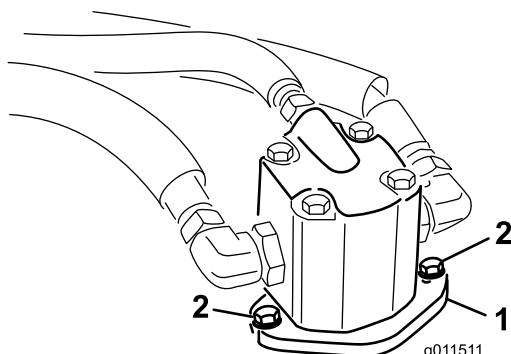

Figure 1
2. Remove bolts securing hydraulic motor to deck (Figure 1). Lift motor off deck and lay it on a clean, out of the way, surface. Do not damage aluminium coupler.